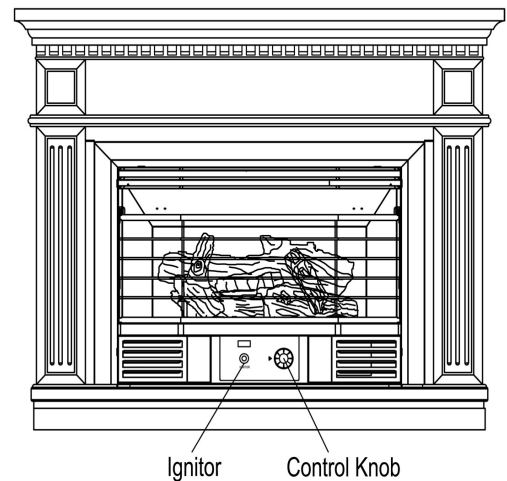

Figure 21 Thermostatic Control Knob Position
3. Turn control knob clockwise to the OFF position, see Figure 21.
4. Wait five (5) minutes to clear out any gas. Then smell for gas around heater and near floor. If you smell gas, **STOP!** Follow "B" in the safety information on Warnings plate. If you don't smell gas, go to the next step.
5. Turn control knob counterclockwise to the PILOT position. Keep control knob pressed in for five (5) seconds. **Note:** You may be running this heater for the first time after hooking up to gas supply. If so, the control knob may need to be pressed in for 30 seconds. This will allow air to bleed from the gas system. If control knob does not pop up when released, contact a qualified service person or gas supplier for repairs.
7. Keep control knob pressed in for 30 seconds after lighting pilot. After 30 seconds, release control knob. **Note:** If pilot goes out, repeat steps 3 through 7. This heater has a safety interlock system. Wait one (1) minute before lighting pilot again.